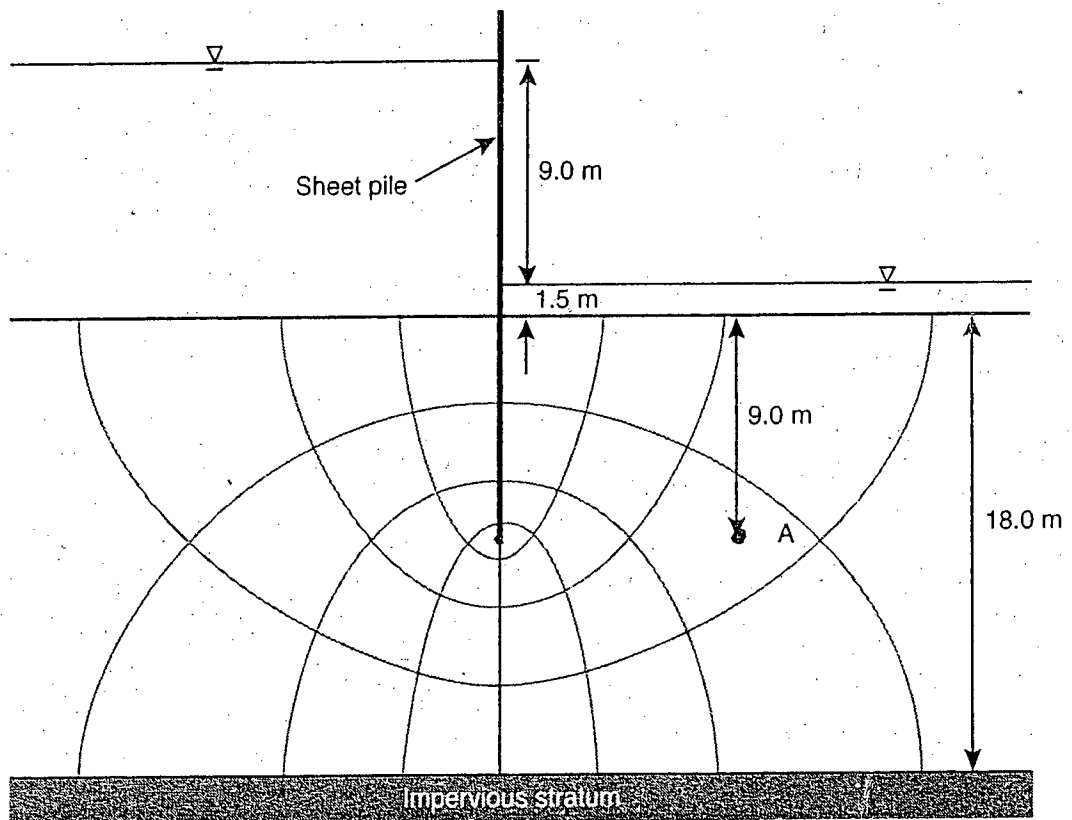

Fig. 4
(c) A sheet pile is driven into sandy silt and seepage takes place under the head difference of 9.0 m as shown in **Fig. 4**. The permeability of soil is given as  $1.6 \times 10^{-4}$  cm/sec and the water content of the soil is 33%. Assume  $G_s = 2.66$ . Using the flow net diagram shown in **Fig. 4**, compute the following: (15)
**(Please attach Fig. 4 with the answer script)**